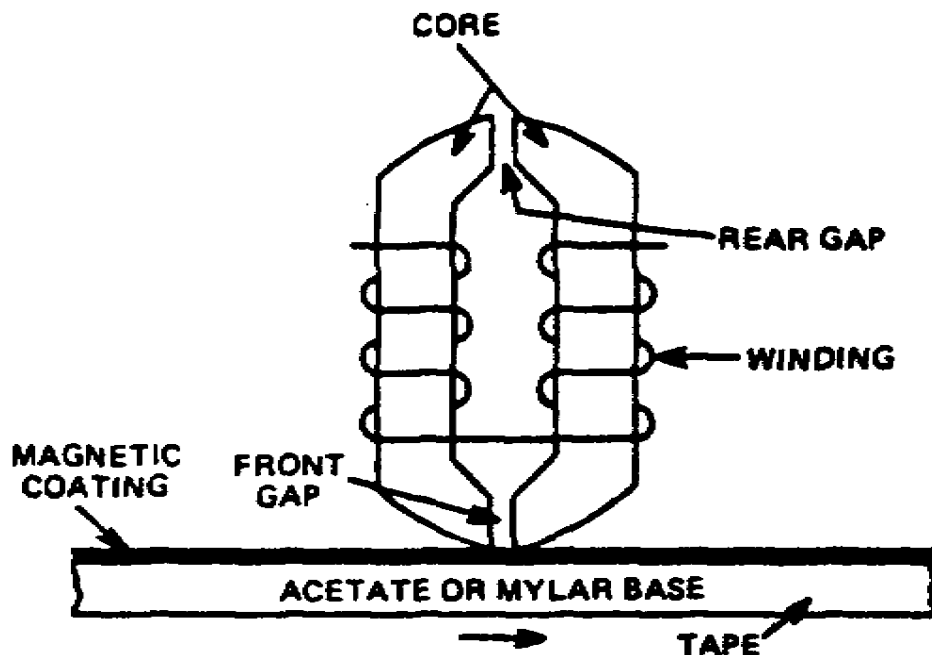
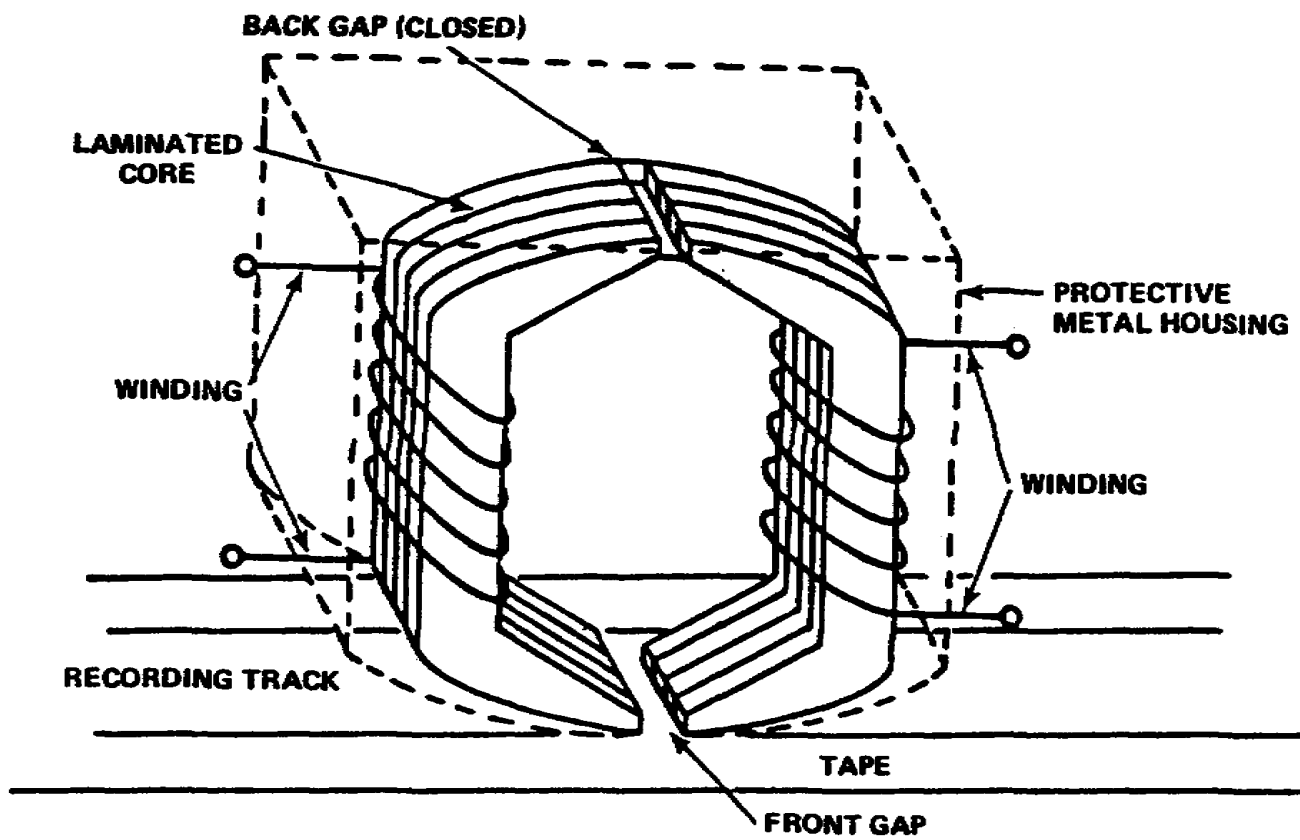

Figure 3-2. Construction of magnetic head
Figure 3-3. Laminated core tape head
(1) The basic construction of tape heads is the same--that is, the head consists of a core of permeable material which is wound with a coil of wire (fig 3-2). This core of permeable material is formed into a contact. The core material is usually of a laminated construction (fig 3-3) rather than nonlaminated. The nonlaminated heads are cheaper to construct, but they usually produce poor results. The laminations, produce a better response to higher frequencies by reducing magnetic losses due to eddy currents.
(2) The core of the head is wound with a number of turns of wire, but the number of turns depends upon the purpose for which the head is designed. The manner in which the core is wound is dictated by the head use; also, two windings may be used. Most of the newer heads follow the two-winding design, one winding on each side of the gap. In most of the newer designs, the two windings are terminated externally, thus they may be connected in a parallel or series arrangement as desired. The core and winding are enclosed in a protective metal housing to prevent the winding from picking up hum emanating from motors, transformers, etc.